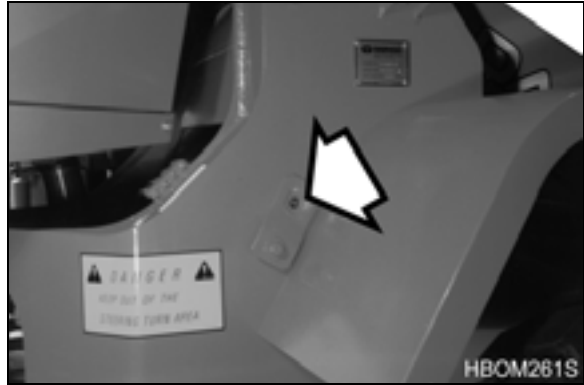

Figure 26
- G. Lift cylinder heads, 2 locations (1 each side) (Figure 26).